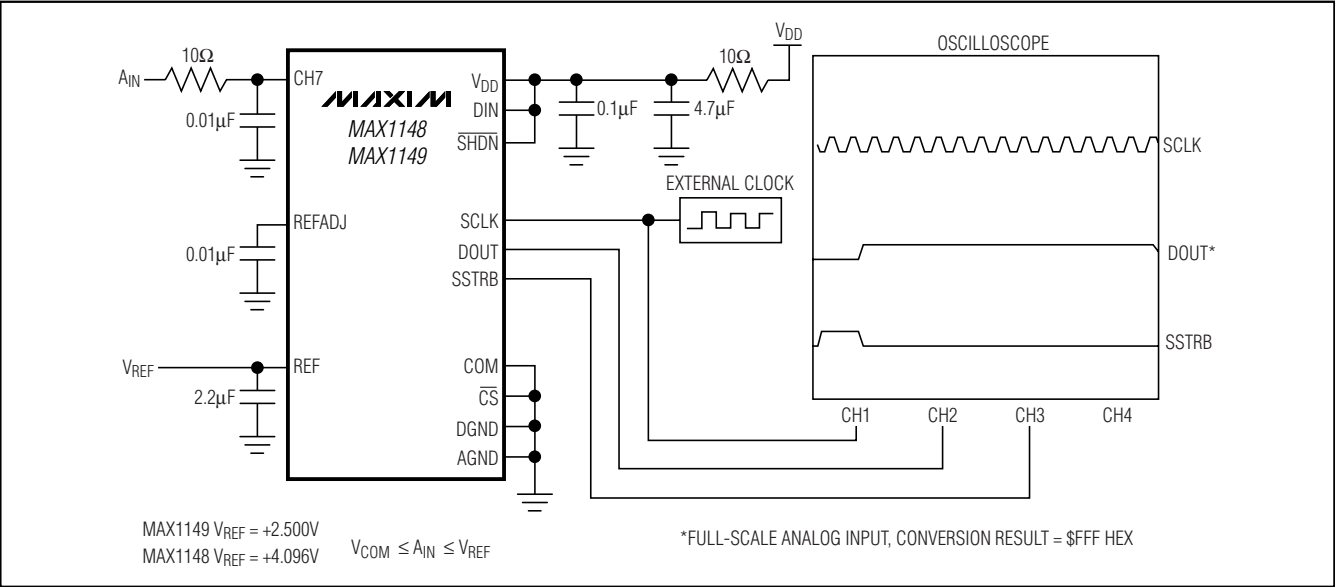
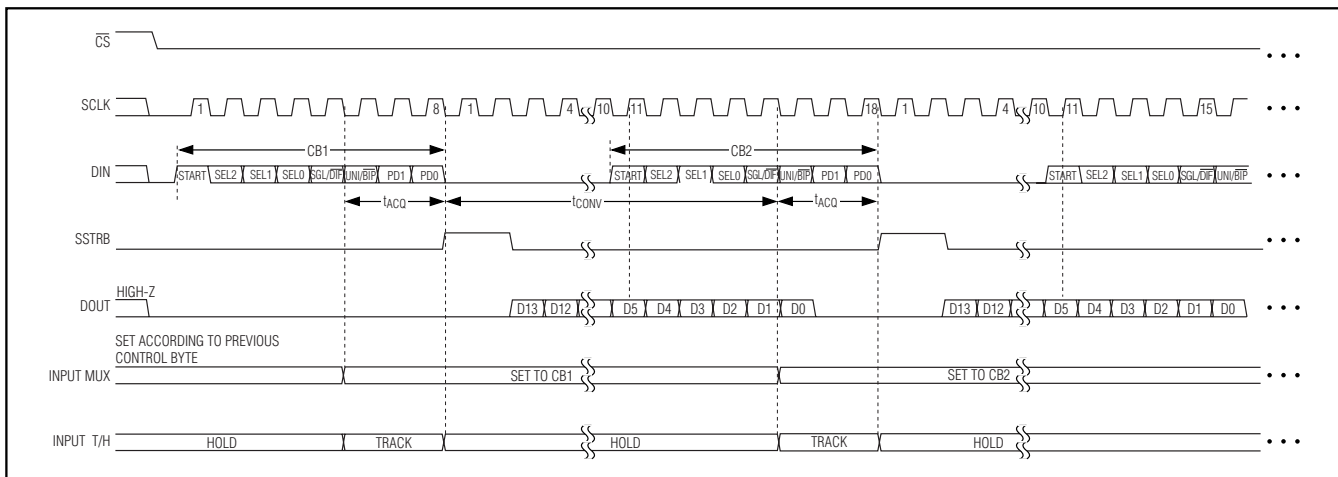

Figure 7. Quick-Look Circuit
Figure 10. External Clock Mode—18 Clocks/Conversion Timing
Use the circuit of Figure 7 to quickly evaluate the MAX1148/MAX1149. The MAX1148/MAX1149 require a control byte to be written to DIN using SCLK before each conversion. Connecting DIN to V_{DD} and clocking SCLK feeds in a control byte of \$FF HEX (see Table 1). Trigger single-ended unipolar conversions on CH7 in external clock mode without powering down between conversions. In external clock mode, the SSTRB output pulses high for two clock periods before the MSB of the 14-bit conversion result is shifted out of DOUT. Varying the analog input to CH7 alters the sequence of bits from DOUT. A total of 18 clock cycles are required per conversion (Figure 10). All transitions of the SSTRB and DOUT outputs occur on the falling edge of SCLK.
- 2) The first high bit clocked into DIN after bit 5 of a conversion in progress is clocked onto DOUT (Figures 10 and 11).
The fastest the MAX1146-MAX1149 can run with \overline{CS} held low between conversions is 18 clocks per conversion. Figures 10 and 11 show the serial-interface timing necessary to perform a conversion every 18 SCLK cycles.